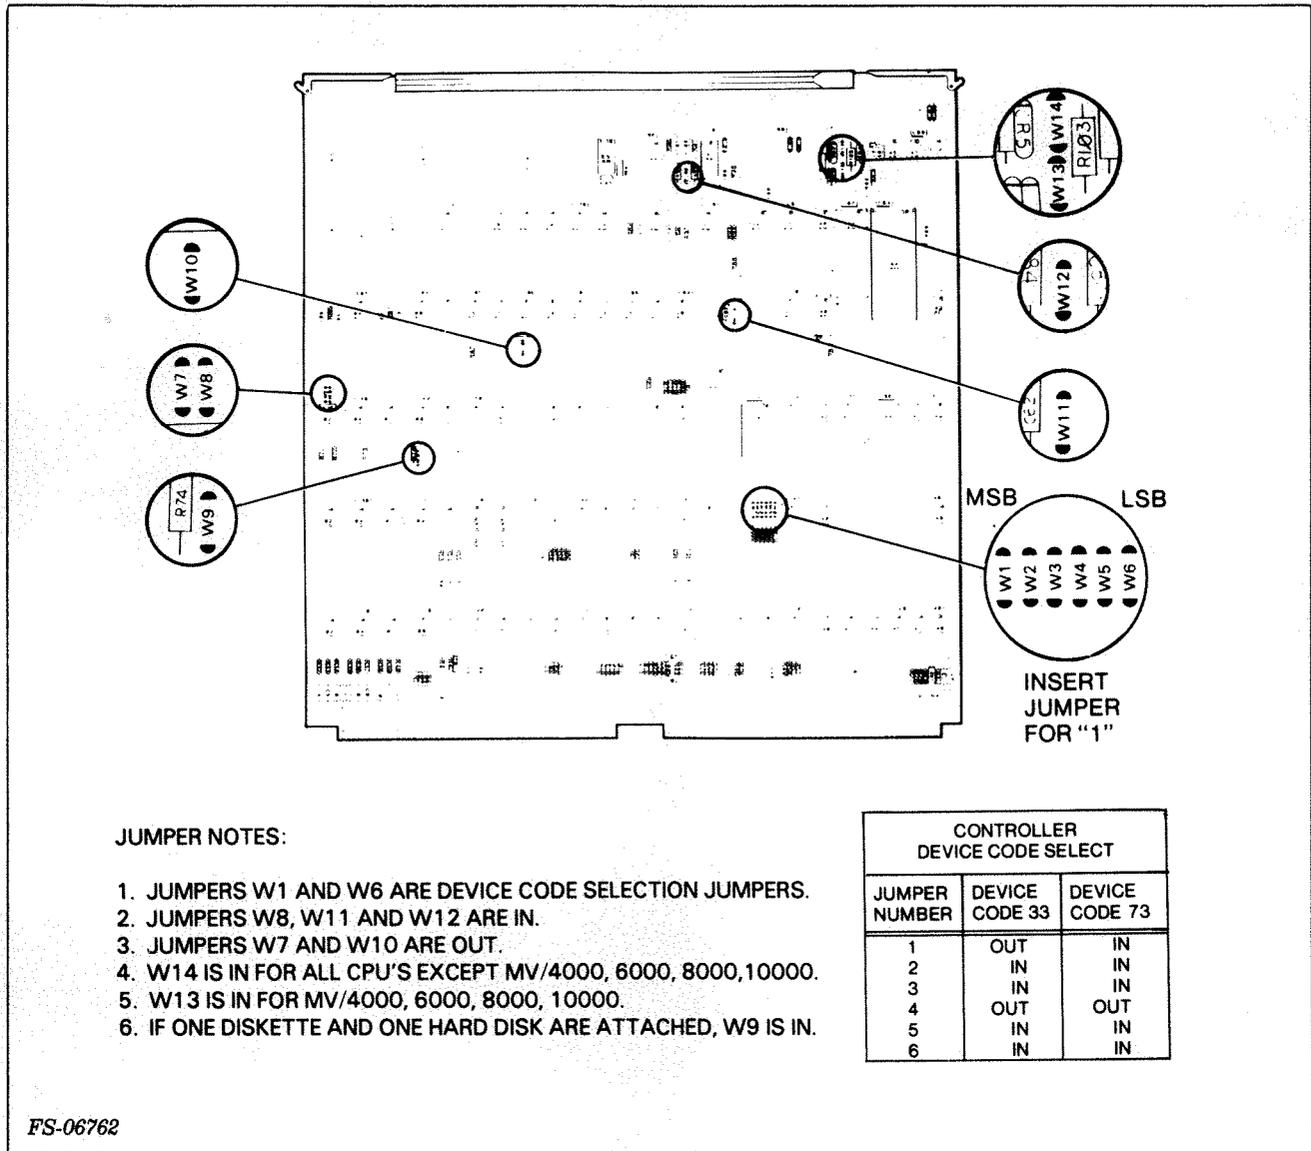

Figure 6-4. Controller PCB Jumpering for Model 6234
Controller PCB tailoring information is shown in Figures 6-4 and 6-5. The controller PCB for the disk subsystem is located within the host CPU.
2. Check the controller PCB for correct jumpering. See Figures 6-4 or 6-5.